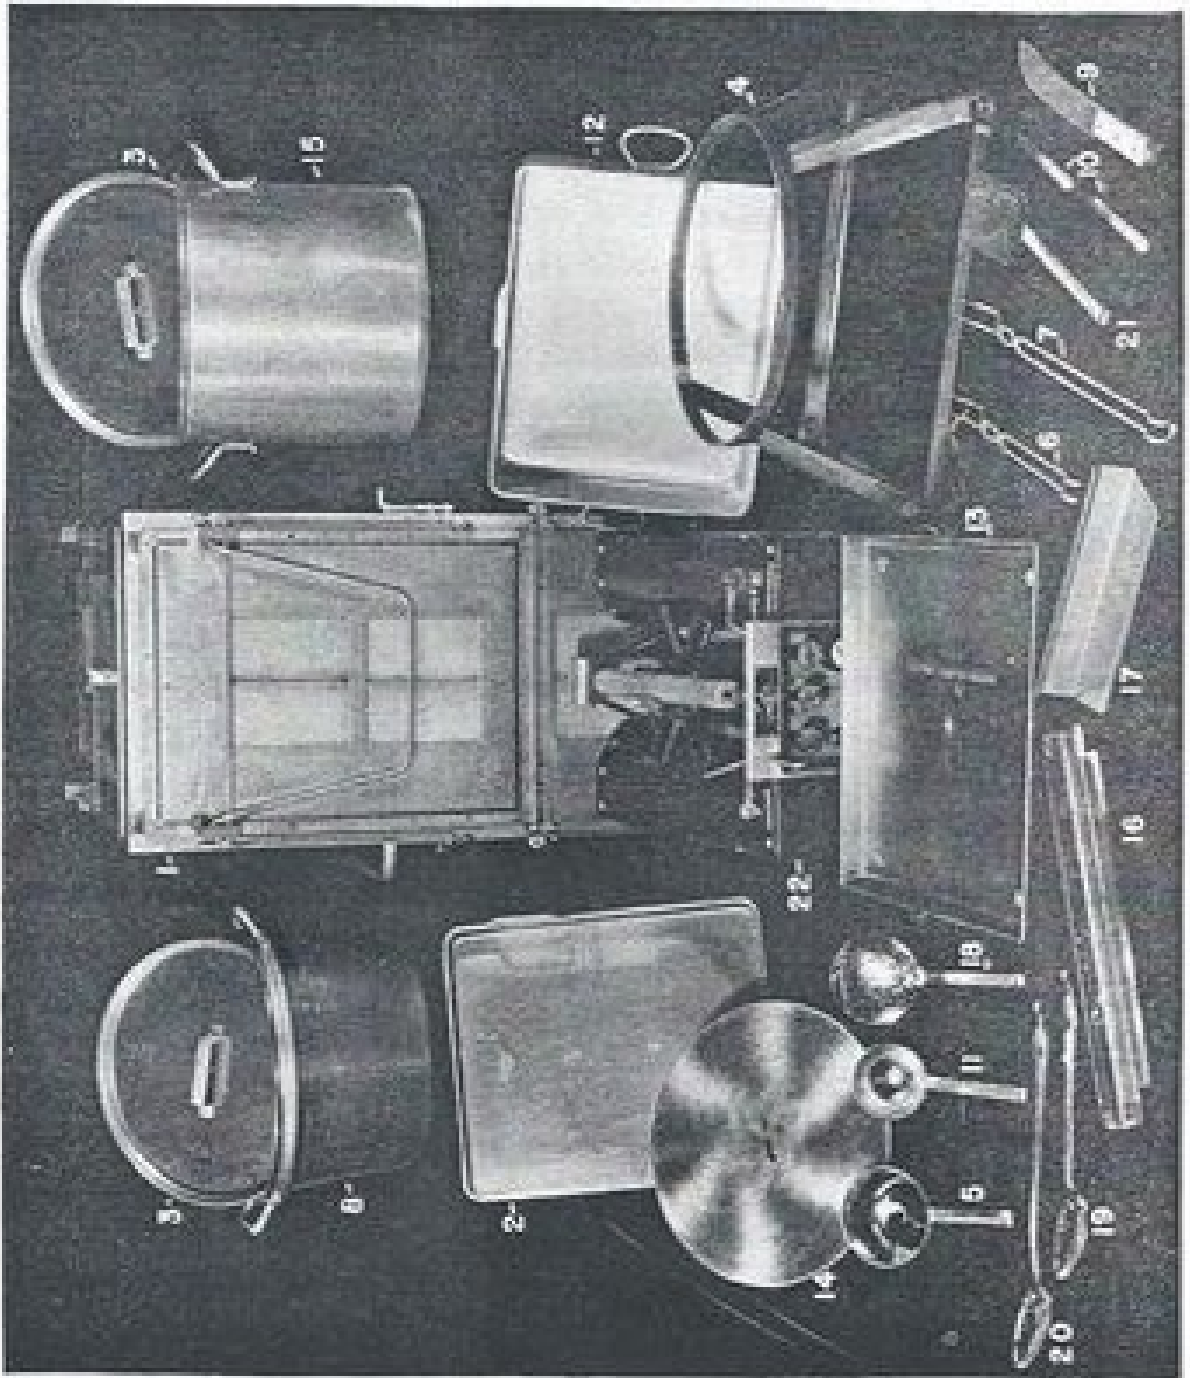

Figure 6. Components of standard "B7" pack.
c. Components included in standard "B" park (fig. 6) (Stock No. 65-J-3525):